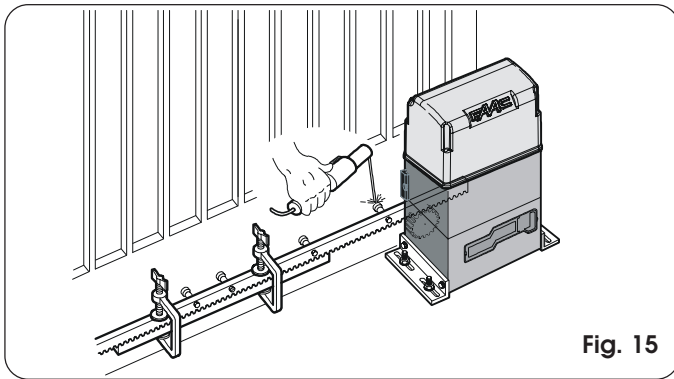

Fig. 15
- 5) Fit another rack element next to the previous one, using a piece of rack, as shown in Fig. 15, to synchronise the teeth of the two elements.